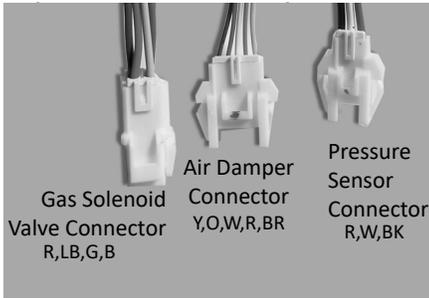

Figure 56: Fan Motor Assembly Wire Connections
- 48 Reconnect the three cables coming from the fan motor assembly to their plastic connectors. See Figure 56 on page 56.